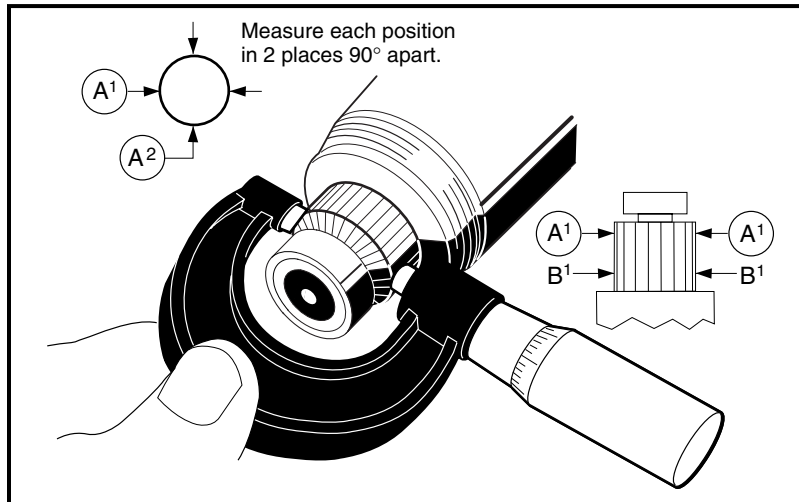

Figure 12b-12 Inspect Commutator
2. Use a micrometer and measure the outside diameter at four points: two points 90° to each other to the outside end of the commutator (A1 and A2), and two points 90° to each other to the inside of the commutator (B1 and B2). If the commutator diameter is less than 1.535 inches (39 mm) at any of the four locations, replace the armature assembly and bearings (**Figure 12b-12, Page 12b-7**).